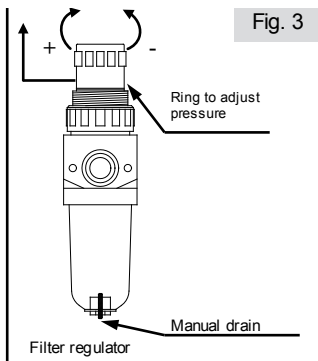

Fig. 3
To adjust pressure, raise and turn in required direction the ring on filter regulator (Fig. 3), the manometer connected to filter regulator shows to you the exit air pressure.
- + Remove periodically the condensation from the regulating filter: push the lower manual drain—see Fig. 3.